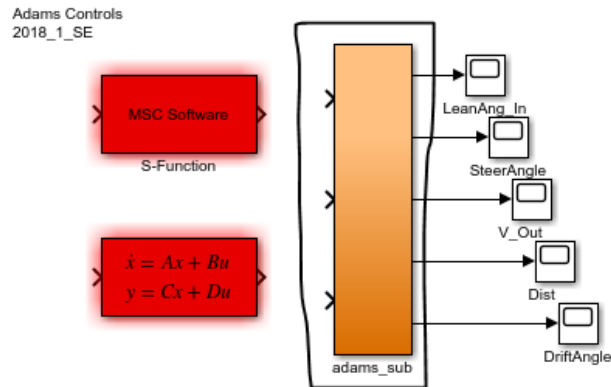

Figure 4:
2. Type *adams\_sys* in the MATLAB Command Window. You are expected to see something like in Figure 4